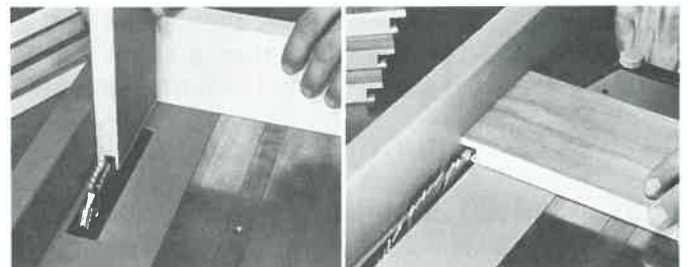

Fig. 22-5. Cutting lock joint in drawer front. Left. Cutting groove. Right. Trimming tongue to length.
6. Cut the joints in the drawer fronts that will hold the drawer sides. Fig. 22-5 shows a sequence